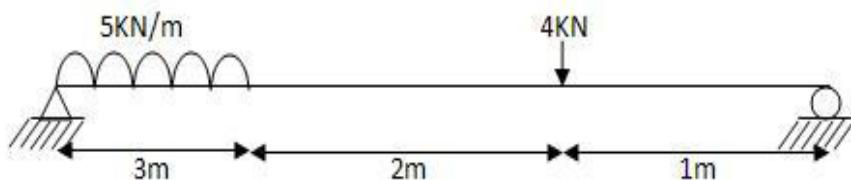

Figure B2(b) / Rajah B2(b)
- (b) Calculate the maximum flexural stress for the beam in Figure B2(b), given the value of $z = 189.4 \times 10^3 \text{ mm}^3$.